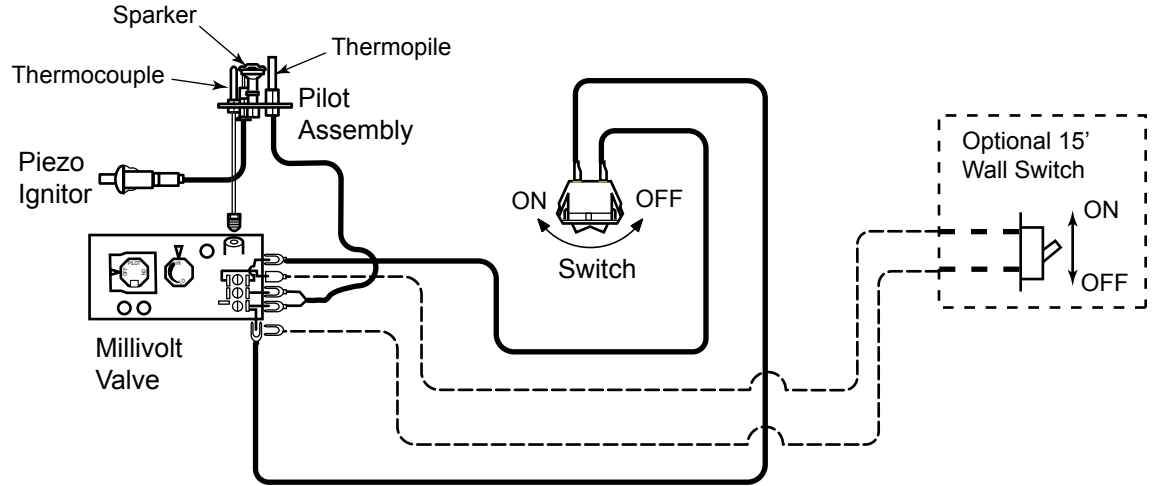

Figure 45 - Wiring Diagram for Wall Switch
A remote wall switch and up to fifteen (15) feet of 18 Ga. wire may be used with this appliance. Attach the wall switch in a junction box at the desired location on the wall. *Figure 45*. Do not extend beyond the wall switch wire length provided.